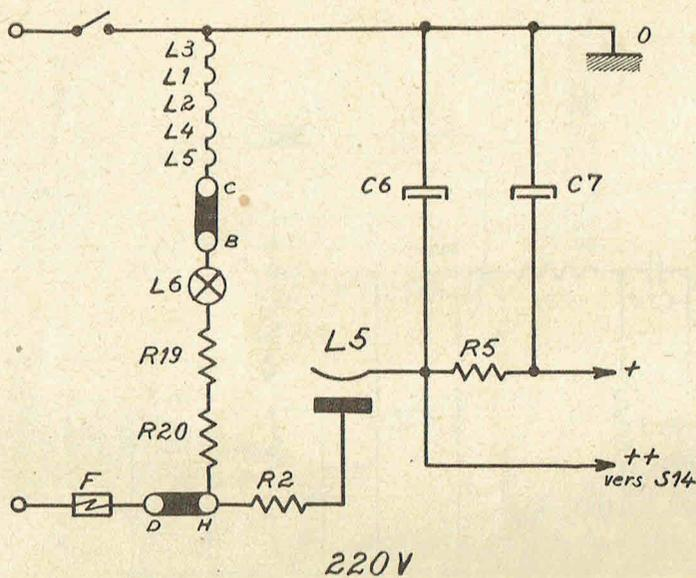

Fig. 8
**Position 220 Volts (figure 8)**